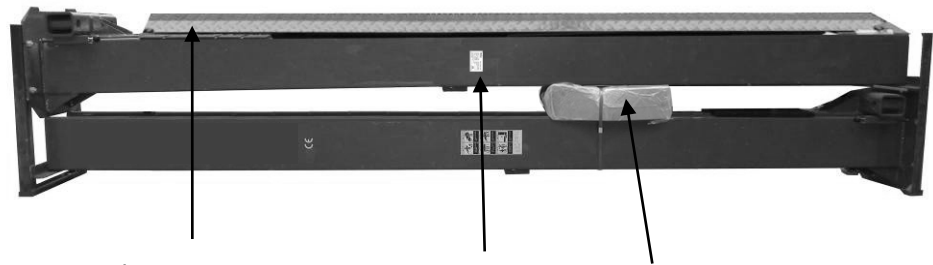

Fig. 6
1. Packaged lift and hydraulic power unit (See Fig. 6)